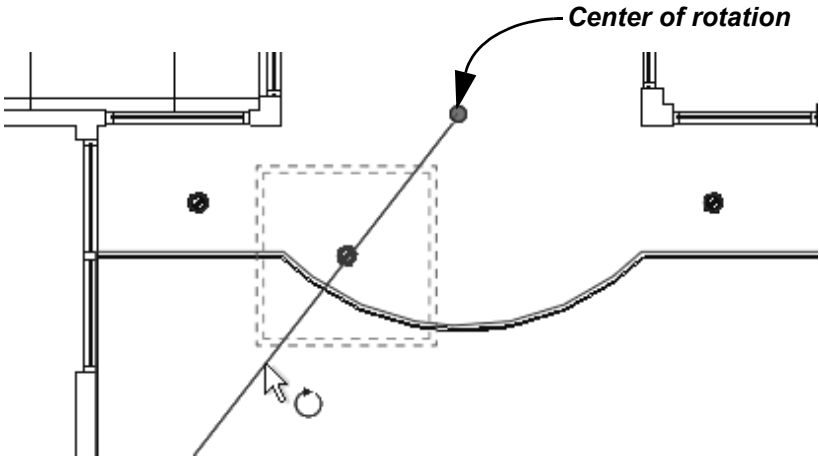

Figure 2-77
4. Drag  (Center of Rotation) or use **Place** to move the center of rotation to the appropriate location, as shown in Figure 2-77.